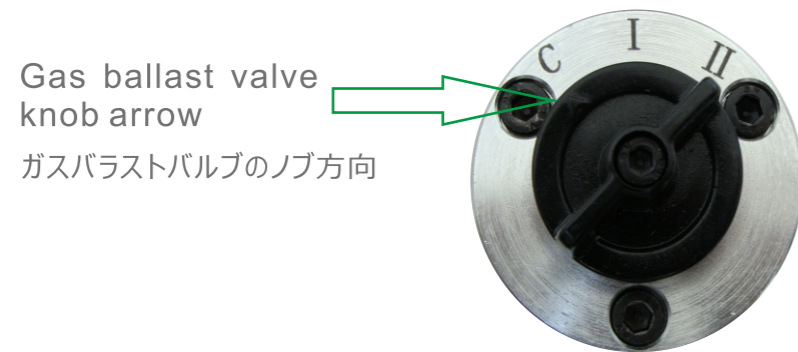

Fig. 7 Gas ballast valve knob
In the presence of permanent gases, the gas ballast valve knob (5/Fig.1) should be switched off (as Fig.7 gas ballast valve knob arrow C below). It may cause the rise of ultimate pressure (decrease of ultimate pressure) if open the gas ballast valve (5/Fig.1).
- When the vacuum system contains a small amount of condensable gas, open the gas ballast valve (refer to Fig 7. gas ballast valve arrow I or II) , It can pump a small amount of condensable gas effectively. Close the gas ballast valve when the vacuum system pressure reduced to a certain value.